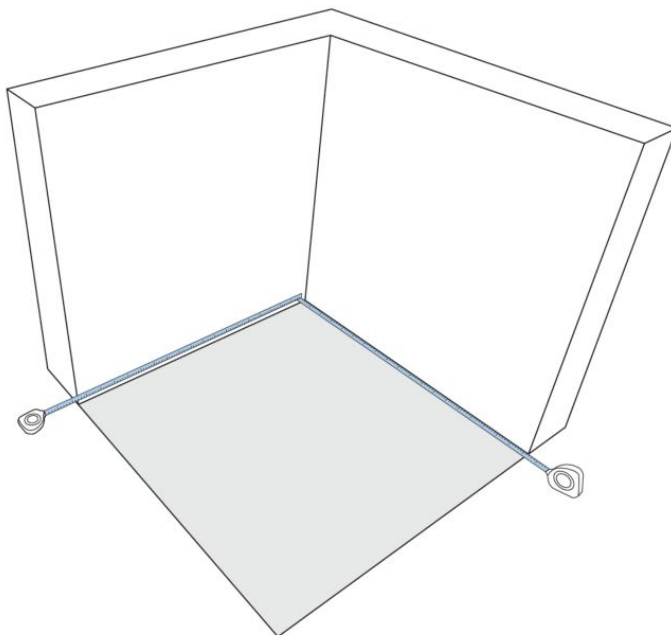

Fig.5
- Measure starting from the corner to the end of the installation section. Ensure the measurement is accurate to avoid gaps or overlaps.(Fig.5)